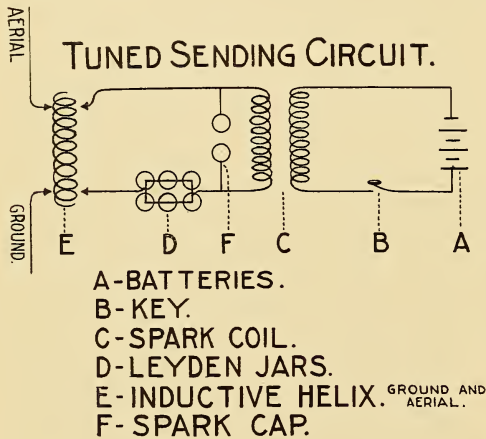
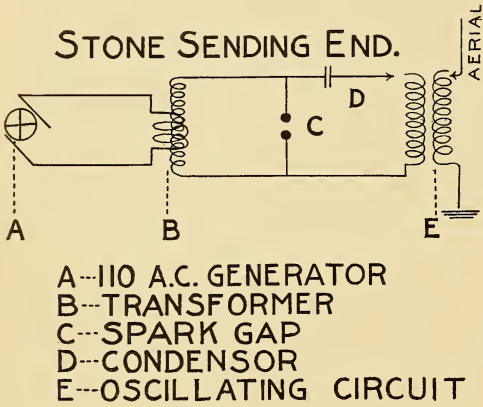
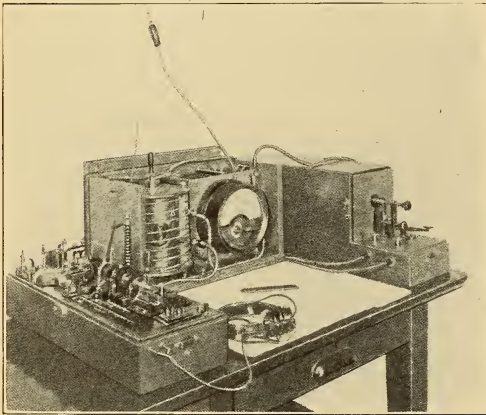

FIG. 6.
FIG. 10.
FIG. 11. MASSIE SYSTEM COMPLETE.
The tuning of the sending end is accomplished by bridging a number of Leyden jars in series with an inductive wound resistance coil around the spark gap as shown in Fig. 6.
The arrangement of the Leyden jars (D) and the inductive coil or helix (E) is shown in Fig. 6, and constitutes the tuning apparatus of a sending station. The tuning coil or helix is composed of 10 turns of copper wire wound on a hard
rubber frame 10 inches high and eight inches in diameter as shown in Fig. 7. The lead from the spark gap (see Fig. 6) to the tuning coil is made of flexible
have done creditable work along this line. The diagram of the Stone sending end is shown in Fig. 10 and differs from the plan of the tuned set in Fig. 6 by using what is known as the inductively connected circuit, which is provided with a second transformer set, with secondary leading to the aerial. At the sending end of the Massie sets the current is usually supplied by means of a motor-generator to the transformer, which in turn charges the aerial wire. In Fig. 11 is shown the